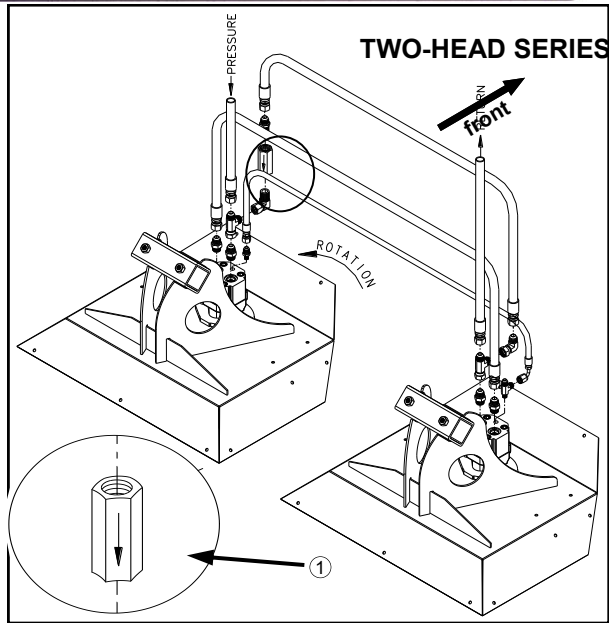

FIG 4.19
Hydraulic hoses on cutter heads should be hooked up so blades on heads mounted left of operator rotate according to figures 4.19 and 4.20 (counter-clockwise from above). Refer to the Hagie 204SP Parts Manual for correct hardware, hose lengths, and hydraulic schematic.
Care should be taken when installing check valve (fig. 4.19, item 1) on cutter motor so the flow arrow is oriented correctly (either two-head or three-head series).